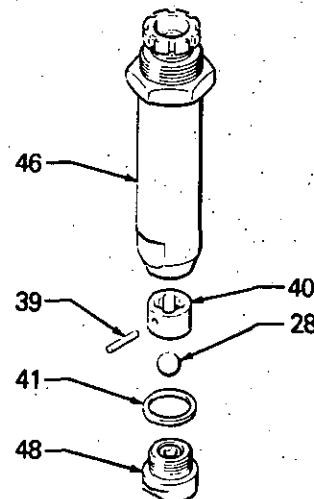

Fig 2
Unscrew the intake valve (48) from the cylinder (46). If the valve is seized in the housing, squirt penetrating oil around the threads and *gently* tap around the housing with a light hammer to loosen. See Fig 2 and 4. Remove the ball guide (40), the stop pin (39) and the ball (28). Clean and inspect the parts for wear or damage.